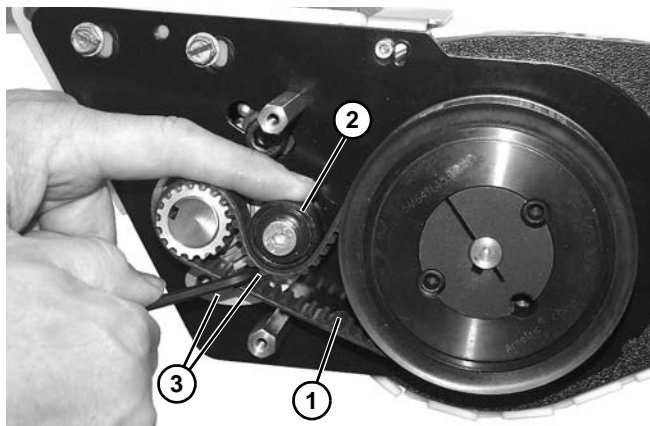

Figure 167
- On drive end, route and install belt (**Figure 167, item 1**) as shown. Press down on tensioner (**Figure 167, item 2**) and tighten two socket head screws (**Figure 167, item 3**).